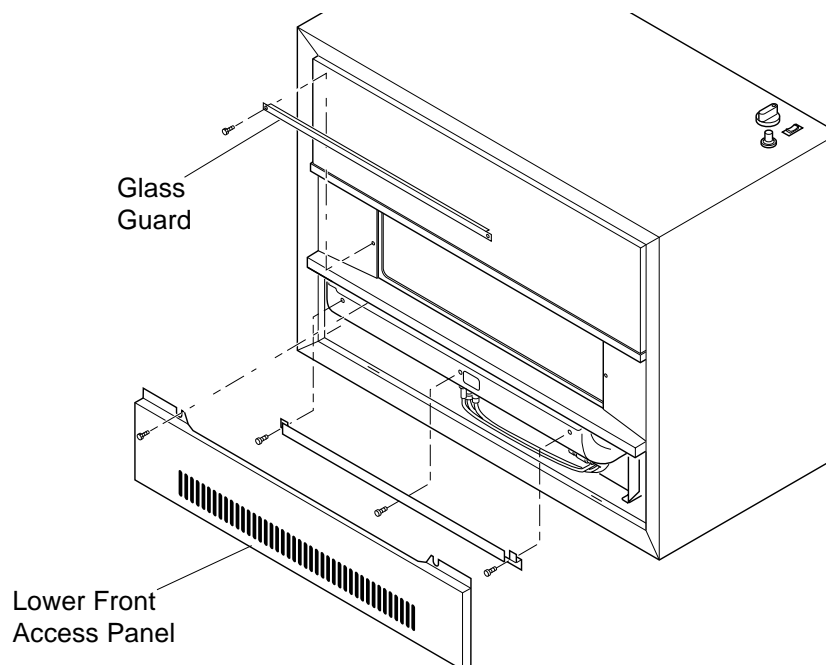

Figure 9 - Removing Lower Front Access Panel
2. Remove lower front access panel of heater by removing two screws at upper corners of panel. The lower front access panel covers the lower front access area (see Figure 9).
3. Remove two screws on glass guard. Remove glass guard (see Figure 9).